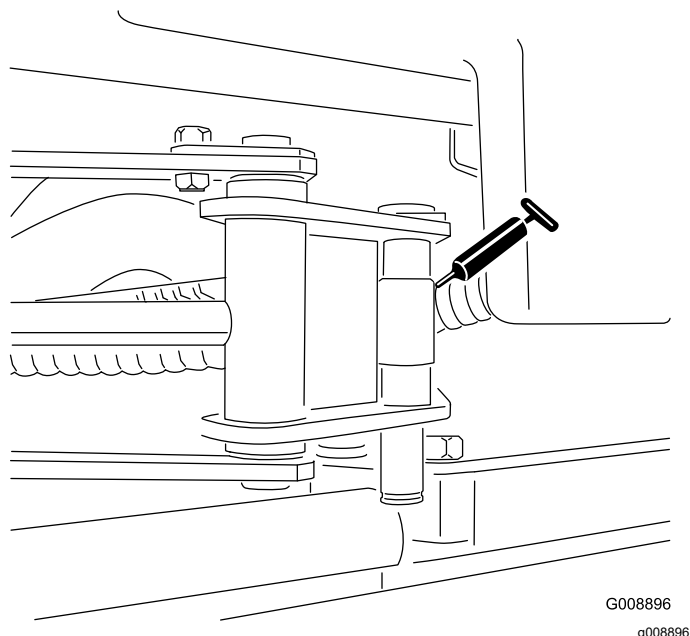

Figure 39
- SideWinder cylinder ends (2) (Figure 39)